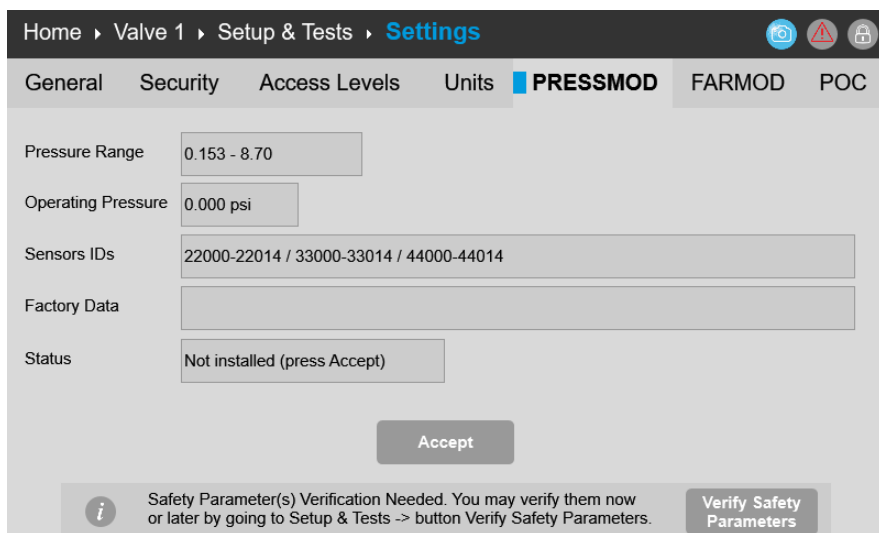

Fig. 139: Pressure Module Tab.
5. If a Pressure Module is used, navigate to the PRESSMOD tab by selecting the following: Attached valve -> Setup & Tests -> Settings -> PRESSMOD. Refer to Fig. 139.